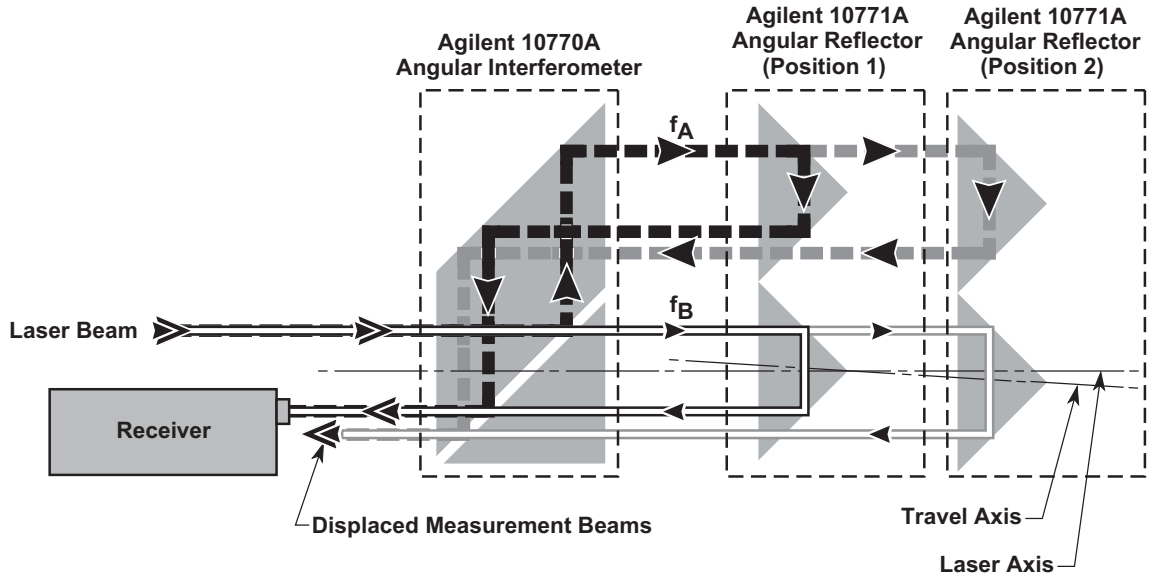

Figure 207 Measurement beam dots movement
- 4 Move the reflector away from the interferometer. If the laser beam is not parallel to the axis of travel, the measurement beams will begin to move away from their original position on the receiver aperture. The impinging beams will move until the beam is cut off by the edge of the interferometer’s aperture. Stop moving the reflector before the beam is blocked, or when the end of travel is reached. Figure 207 illustrates this situation.